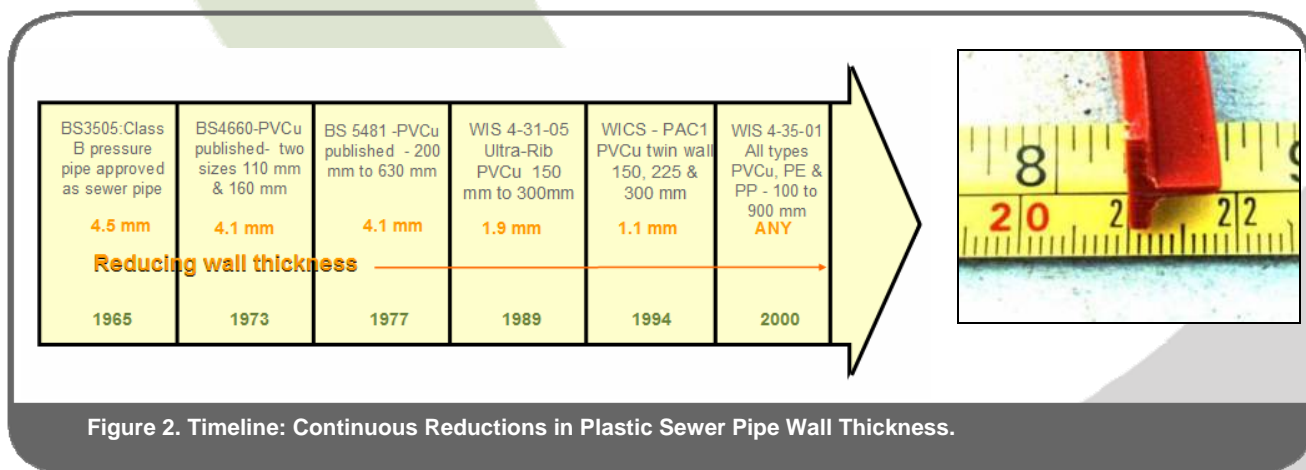

Figure 2. Timeline: Continuous Reductions in Plastic Sewer Pipe Wall Thickness.
1. Plastic pipe wall thickness: Minimum wall thicknesses for different plastic sewer pipeline systems have been reduced considerably in the last 40 years (see Figures 2 and 3). It is not clear what led the plastic industry to make such reductions. One reason may be advances in reinforcing admixtures used in plastic products, so justifying such decrease in wall thicknesses. However another reason may be cost reductions. It may be that the reduction in wall thickness has contributed to the jetting damage problems witnessed by the industry.